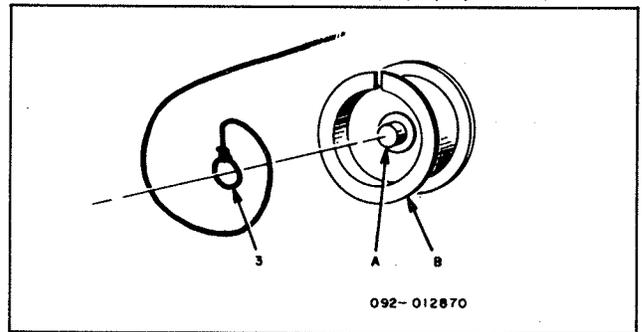

Figure 8. Bottom Pointer Stringing Detail.
- a. Turn left tuning shaft fully clockwise. Attach the end of the cord (1) to shaft A and place one turn of cord (2) counterclockwise around pulley B, winding the cord toward rear of the pulley.
- d. Attach the remaining loop (3) to shaft A (see figure 8) and slip one turn of cord clockwise over pulley B. The loops are to be positioned at the bottom of the cord groove so that the cord will take up toward the end of the pulley.
- e. Replace the tuning knob on the left-hand VFO and turn it fully counterclockwise. Turn the knob clockwise fifteen divisions of skirt. Locate pointer (4) at the first calibration mark, crimp tabs, and cement in place. Remove the tuning knob (reverse items 1, 2, 3, 4, and 5).